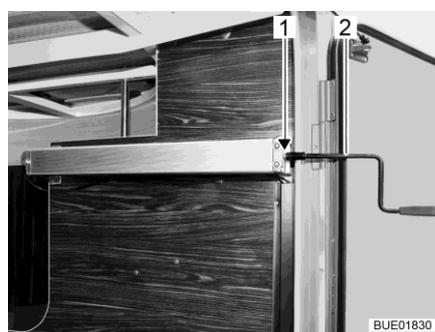

Fig. 135 Crank in the rear garage
- Attach the crank (Fig. 135,2) onto the journal (Fig. 135,1).